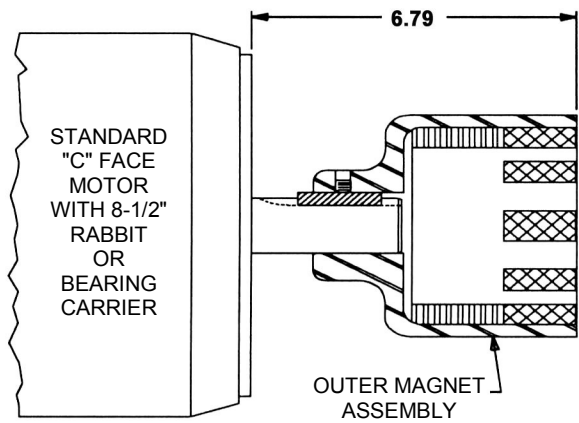

FIGURE 17
1. Inspect magnets for any metal objects attached to the magnets. Remove any foreign material. Locate outer magnet assembly per drawing. Reference point for MD-A2 & MD-A8 is the back edge of the "C" face. See Figure 17. Apply loctite to setscrew threads and tighten both setscrews onto motor or bearing carrier shaft. The bearing carrier housing features a machined step on its mounting flange, which is the reference point for setting the position of the outer magnet.